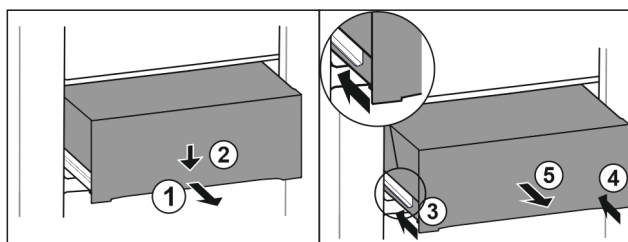

Fig. 145
- Pull out drawer half-way. *Fig. 145 (1)*
- Push the drawer down at the front. *Fig. 145 (2)*
- Push the left rail in by about 2 cm. *Fig. 145 (3)*
- Push the right rail in by about 2 cm. *Fig. 145 (4)*
- Remove drawer to the front. *Fig. 145 (5)*